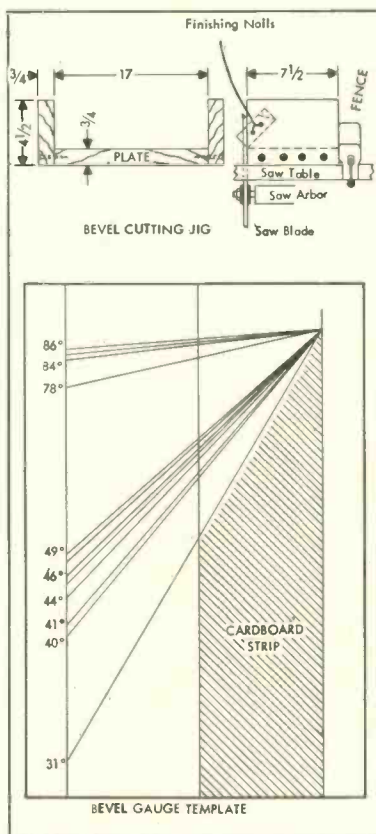
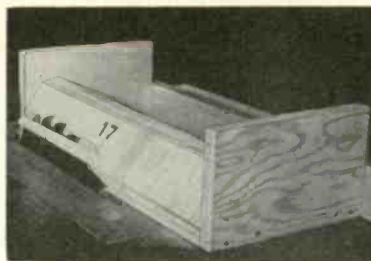
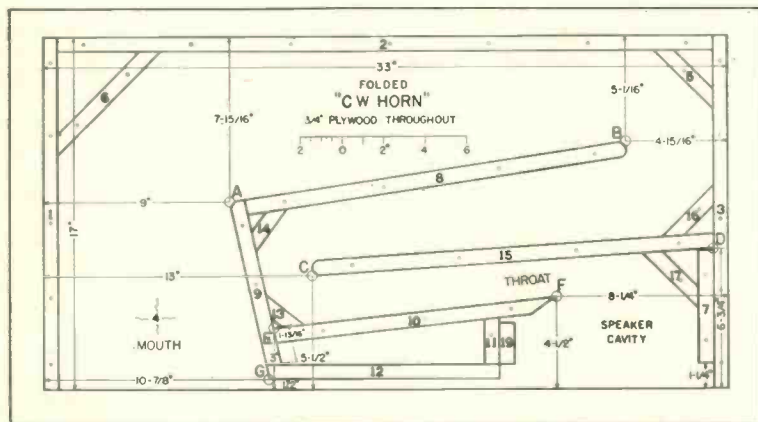

Fig. 6. (A) Layout of the jig designed to facilitate cutting the various bevels. (B) Bevel-gauge template for the angles used.
Fig. 7. Photograph of the jig shown in Fig. 6.
Fig. 8. Assembly of the horn, with pieces numbered in accordance with Fig. 5. Layout dimensions are shown.
A number of the pieces must be beveled with one or more of the angles indicated at (A) in Fig. 6. A simple template which may be used to mark the pieces or set a machine can be provided by using a strip of cardboard 6 to 8 in. long and  $\frac{3}{4}$  in. wide, one end of which can be marked by use of the bevel gauge template, Fig. 8, and then the cardboard cut off at the required angle.
The bevel cutting jig of Fig. 6 is pictured in Fig. 7. It is a proven device for cutting the bevels accurately and safely with a power saw. It is especially useful with the bevels varying from 31 to 49 deg. Those bevels which vary from
Lay the bottom side (4) on the bench, smooth surface down. Draw on its upper "rough" surface the data shown in Fig. 8 with the exception of the fillets 5, 6, 13, 14, 16, and 17. Locate accurately points A, B, C, D, E, F and G. Draw the lines AB, CD, EF and AG. These lines control the positions of parts 8 through 14 and 15 through 17. Spot the position of the holes to be drilled for the screws or nails which are to hold the box together.
Builders may find it desirable to make a complete full scale drawing of Fig. 8 on tracing paper or brown wrapping paper and by means of carbon paper use it to transfer pertinent data to the top of part 4.
Since two frequencies are involved, a complex (nonsinusoidal) wave is produced, and the indication of an ordinary vacuum tube voltmeter is, therefore, not valid in determining the power level by the customary formula  $P = E^2/R$ . Furthermore, since one wave rides the other, the peak value of the two waves may reach a value equal to the algebraic sum of the individual waves, with the result that overload can occur for two frequencies when each is only one-half the amplitude required for overload by a single frequency. (See Fig. 8) Since each wave is only one-half the maximum amplitude, it can produce only one-quarter the power of a single maximum-amplitude wave. The power available from two such waves without any possibility of overload is, therefore, only one-half the power available from a single-frequency wave. The curves for the CCIF intermodulation tests are calibrated in terms of volts as read on an audio-frequency voltmeter (Continued on page 75)